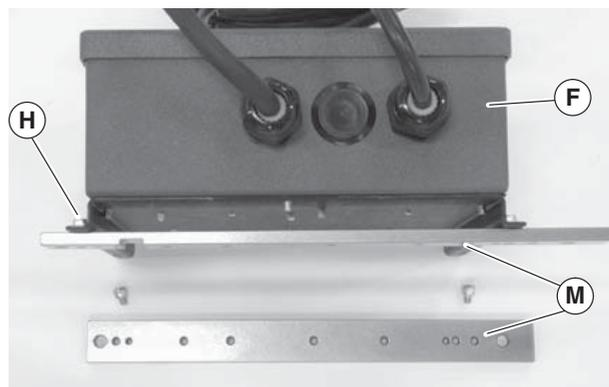

Figure 13
1. Attach mounting bars (Figure 13, item M) to controller (F) with screws (H).